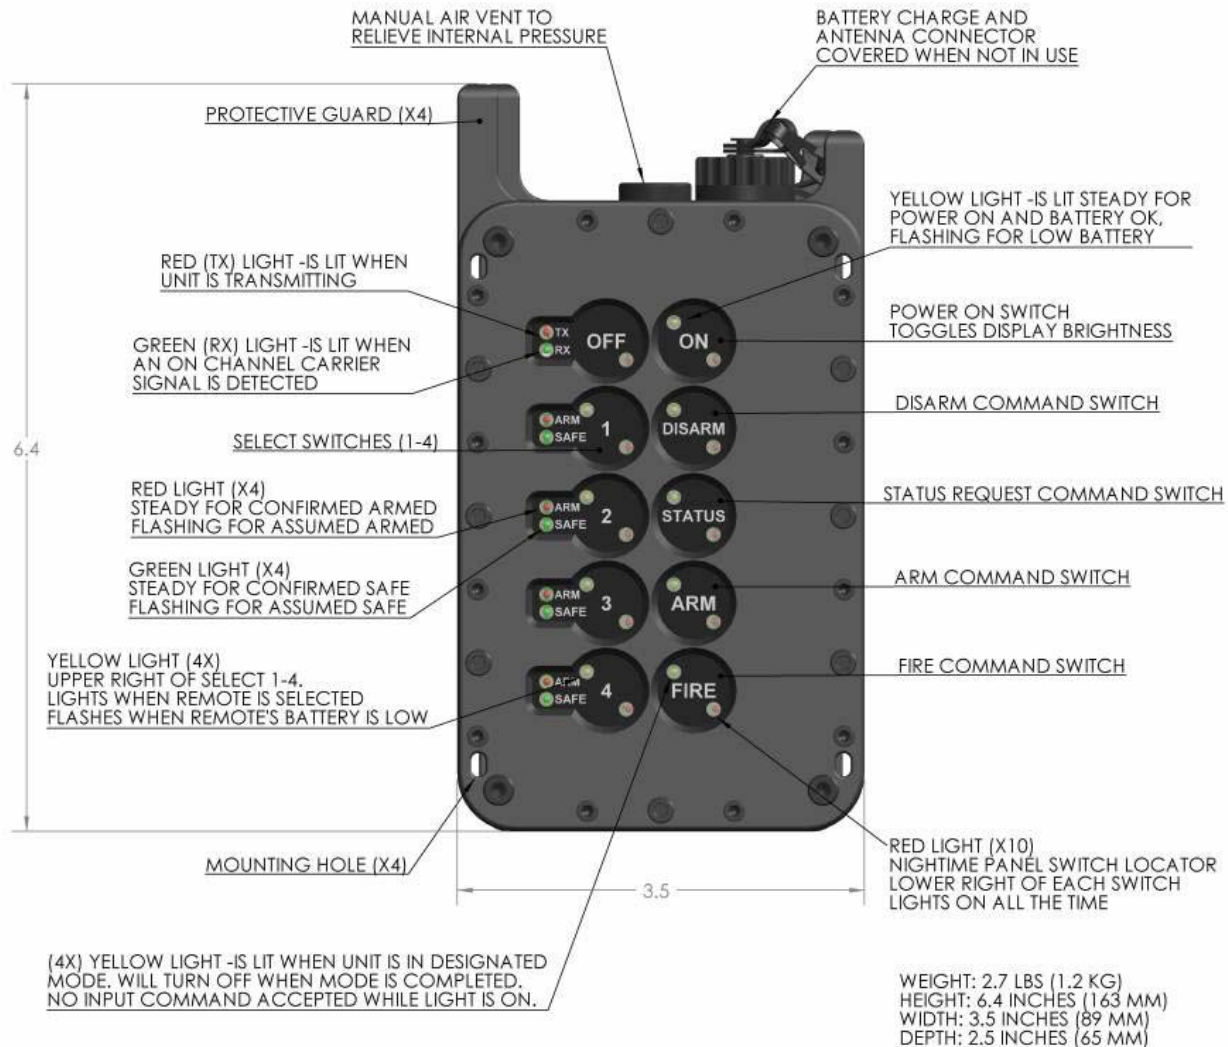

Figure 2-2 Mini Controller Unit
2.2.1. Figure 2-2 shows the external features of the Mini Controller Unit. The unit is sealed at the manufacturer and/or service depot and should not be opened during field activity.